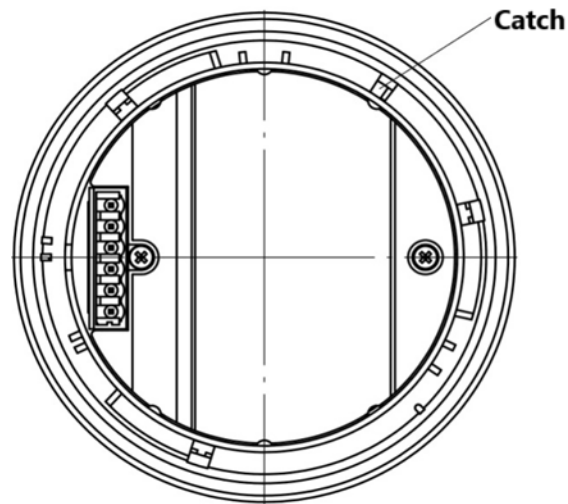

Fig.5.1 Bottom view of the detector
The detector assembling and dismantling is shown in Fig. 5.1 and 5.2. In order to dismantle the detector it is necessary to:
- a) press the catch (fig.5.1) and turn the guard in the basket clockwise until the guard is removed;